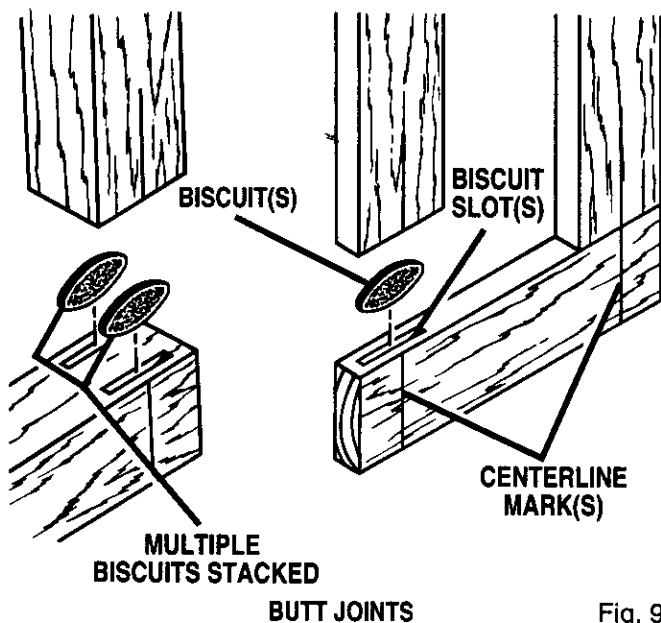

Fig. 9
When joining thick materials, stack two biscuits, one above the other. For example, joining 2 in. x 4 in. dressed lumber. See Figure 9. When joining even thicker materials, use additional biscuits, stacked above each other.
See Figure 9.
- Finally, disassemble the workpieces and place a bead of glue in each slot. Also, spread a bead of glue over the entire surface of the joint. Reinsert the biscuits and assemble the workpieces. See Figure 9.